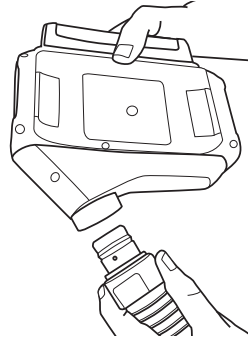

Fig. 9 Removing breathing tube
4. Removal: Turn the motor/blower upside down so that the outlet faces down (Fig. 9) to help minimize the potential for contamination of the outlet.